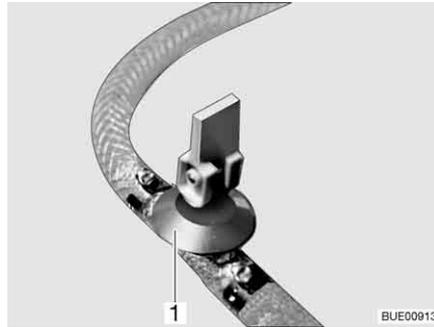
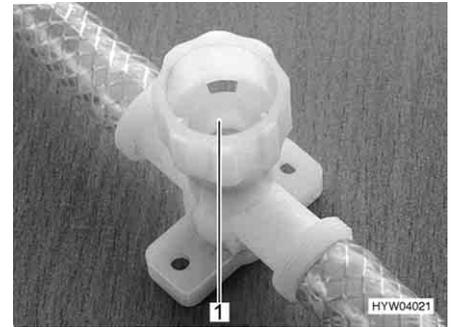

Fig. 168 Drain cock (with rocking lever)
Fig. 169 Drain cock (with twist cap)
- Close all drain cocks. To do this, position the drain cock's rocking lever (Fig. 168,1) horizontally or turn the drain cock's cap (Fig. 169,1) in a clockwise direction.